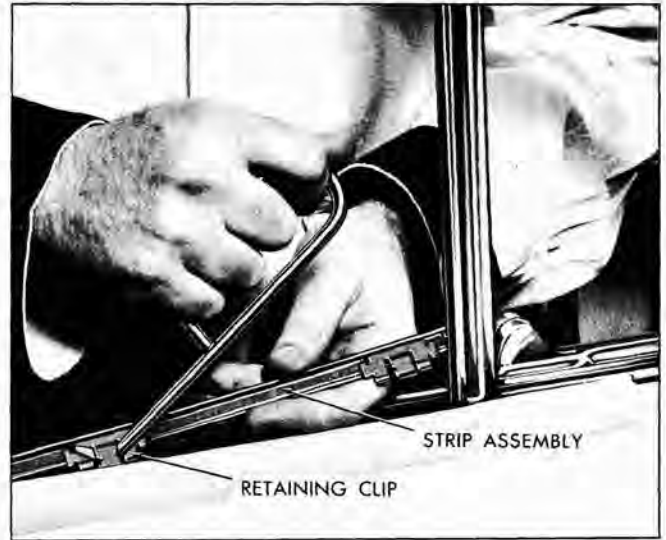

Fig. 3-14 Glass Run Channel Strip
3. With a hooked tool, carefully pry up inner edge of strip assembly at clip locations and remove assembly from door (Fig. 3-14).